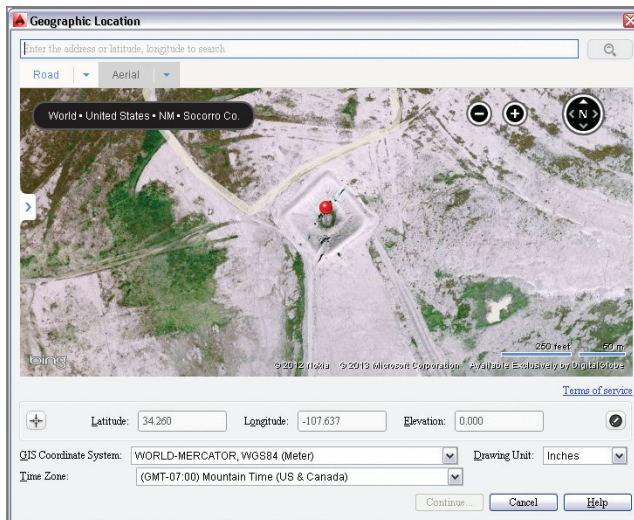

FIGURE 18.14 Specifying the geographic location of the site
3. Select the Set Location tool in the Sun & Location panel. Select the From Map option. In the Geographic Location dialog box that appears, zoom into a hypothetical site anywhere in the world you would like. Right click the map and choose Drop Marker Here. A red pin appears on the map at that location (see Figure 18.14).